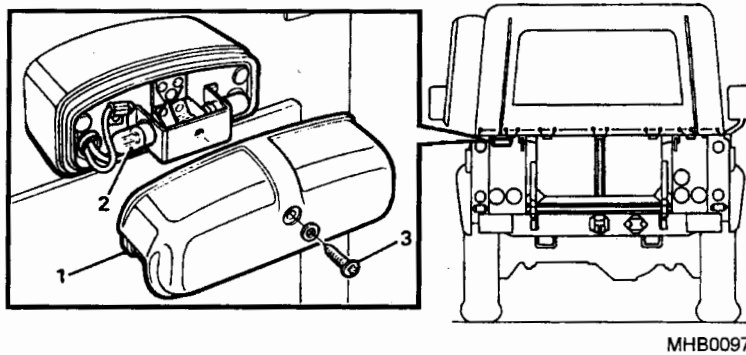

Fig 8 Rear number plate light
11.2 Slacken the securing screw (Fig 8 (3)) and remove the cover from the light body (1).